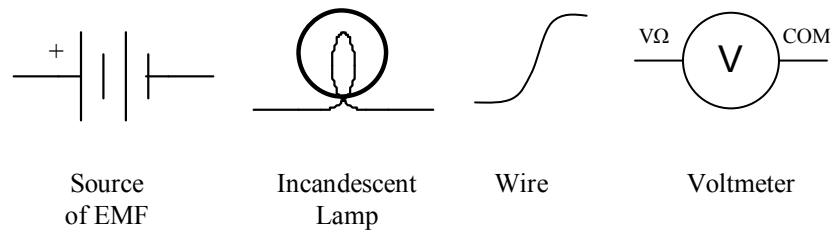

Figure 5: Symbols to use in circuit diagram
- Draw a circuit diagram in the box below to show how you will use the multimeter, configured to measure voltage, to measure the potential drop across one of the bulbs in a two bulb circuit. Use only the symbols shown in *Figure 5*. (The symbols $V\Omega$ and COM are the labels on your multimeter for the two sockets where you connect the meter’s probes when measuring potential difference (V) or resistance (Ω). When measuring potential difference, as you are here, if the probe connected to the $V\Omega$ socket is placed at the point of higher potential you will obtain a positive reading from your meter.)